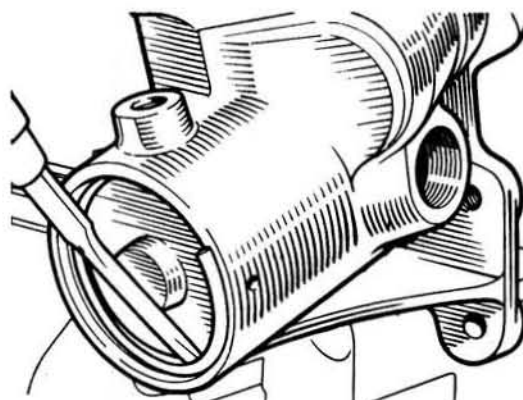

Fig.11.46. Removing the cylinder cover retaining clip
12 Remove the cylinder cover retaining clip (19) by forcing one end out of its groove using a short 3/16" (4.5 mm) steel punch. The clip can be eased clear with a screwdriver (Fig.11.46).